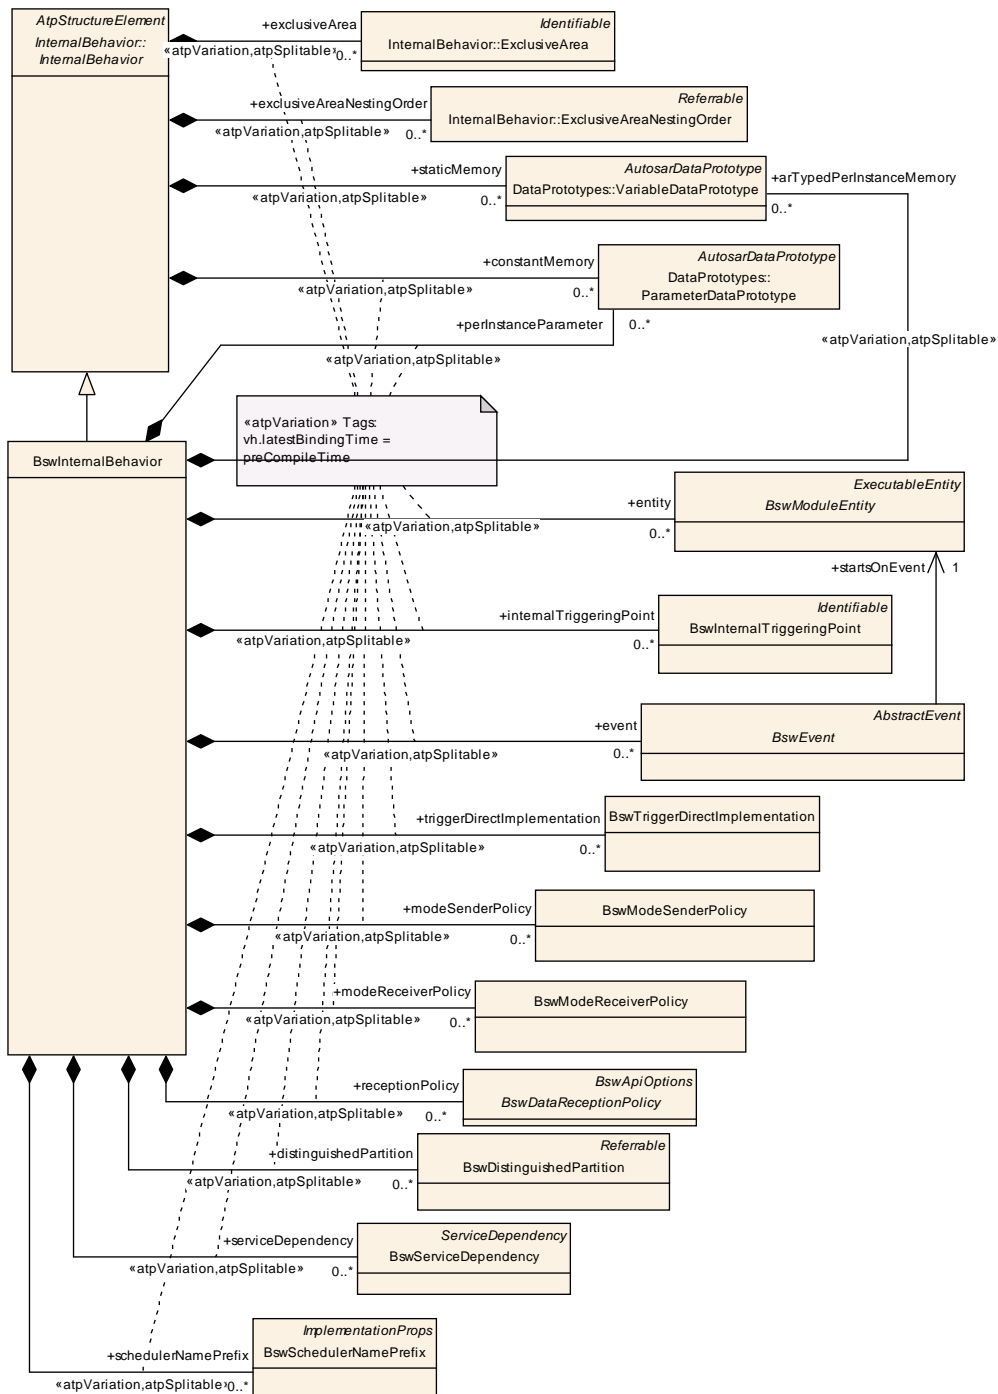

Figure 11.3: Variation points under `BswInternalBehavior`
**[TPS\_BSWMDT\_04064] BSW Behavior Variation Points** [In a similar way, variation points underneath `BswInternalBehavior` allow to declare variants in the aggregation of `BswModuleEntity`-s, `BswEvents` and further elements, see figure 11.3.
The figure 11.3 also shows the variation point in the aggregation of local data for calibration and measurement and of `ExclusiveArea` by the base class `InternalBehavior`. ](RS\\_BSWMD\\_00049)